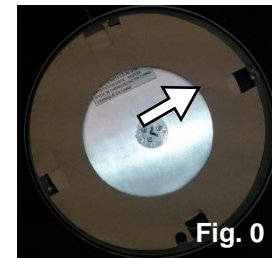

Fig. 0
- Remove the cardboard rings under the **hood** and then reattach the **hood** to the **case** using the **case screws**. (Fig. 0)